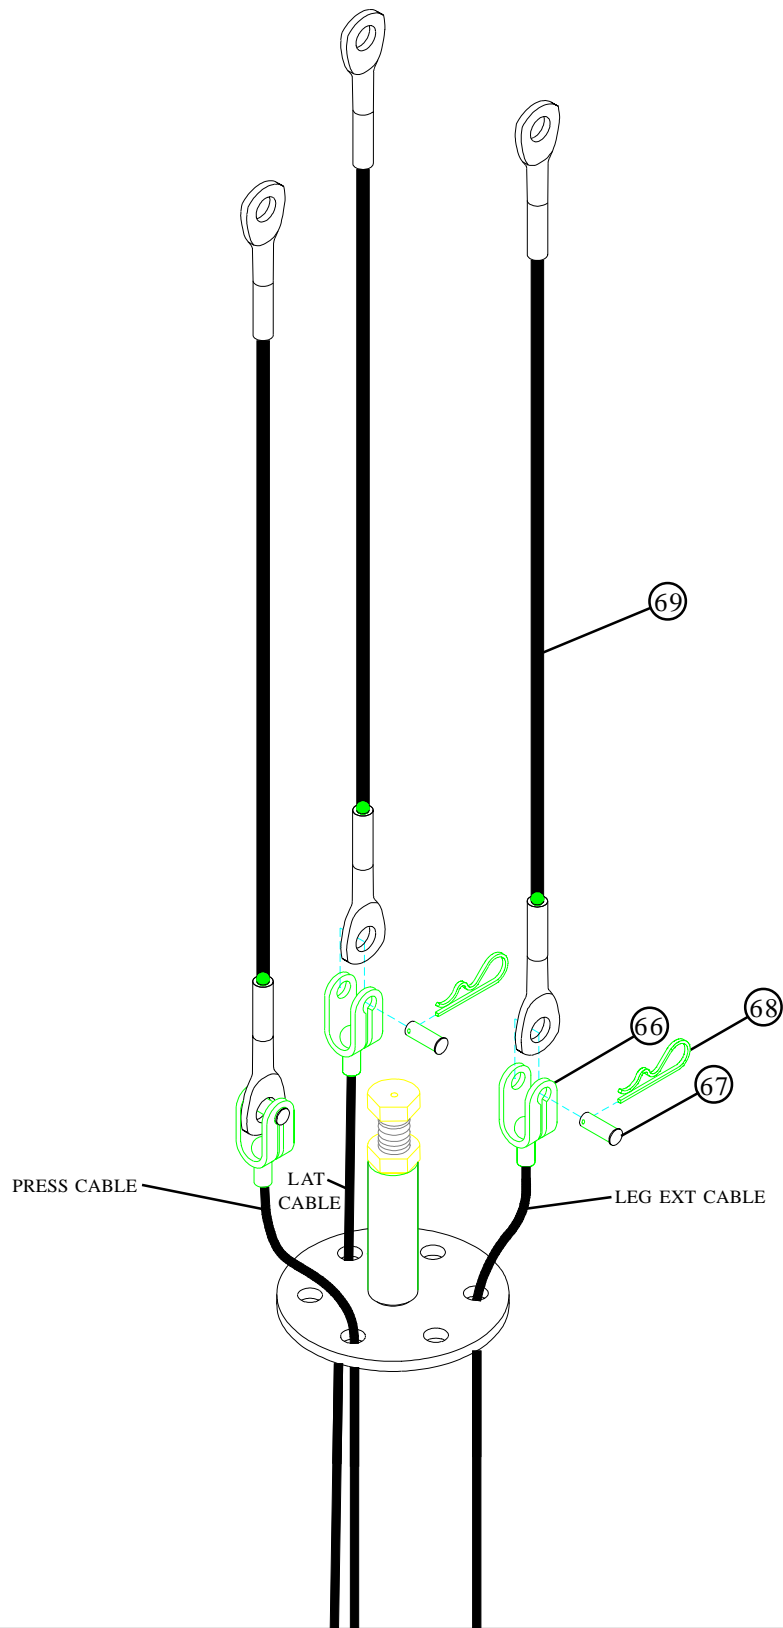

FIGURE 43
- Attach three TENSION CORDS (69) to the three KEYHOLE CLEVIS (66) using three CLEVIS PINS (67) and three COTTER PINS (68) as shown in FIGURE 43.